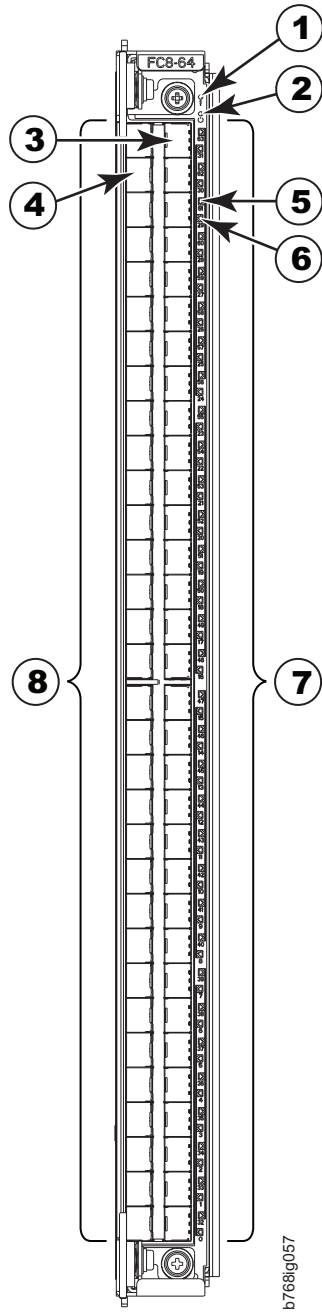

Figure 59. FC8-64 port blade
- Figure 59 on page 183 shows an FC8-64 port blade